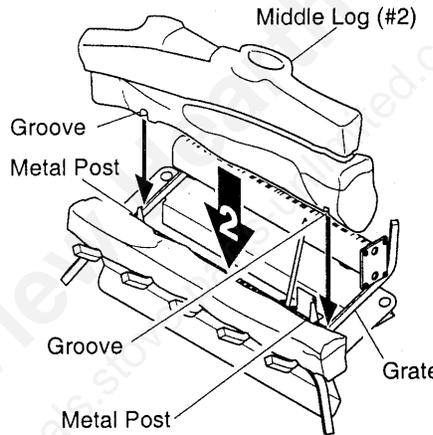

Figure 36 - Installing Middle Log (#2)
2. Rest middle log (#2) behind metal posts on front burner. Make sure the grooves in the bottom of the log fit over the grate (see Figure 36). Bring the log forward next to the metal posts.